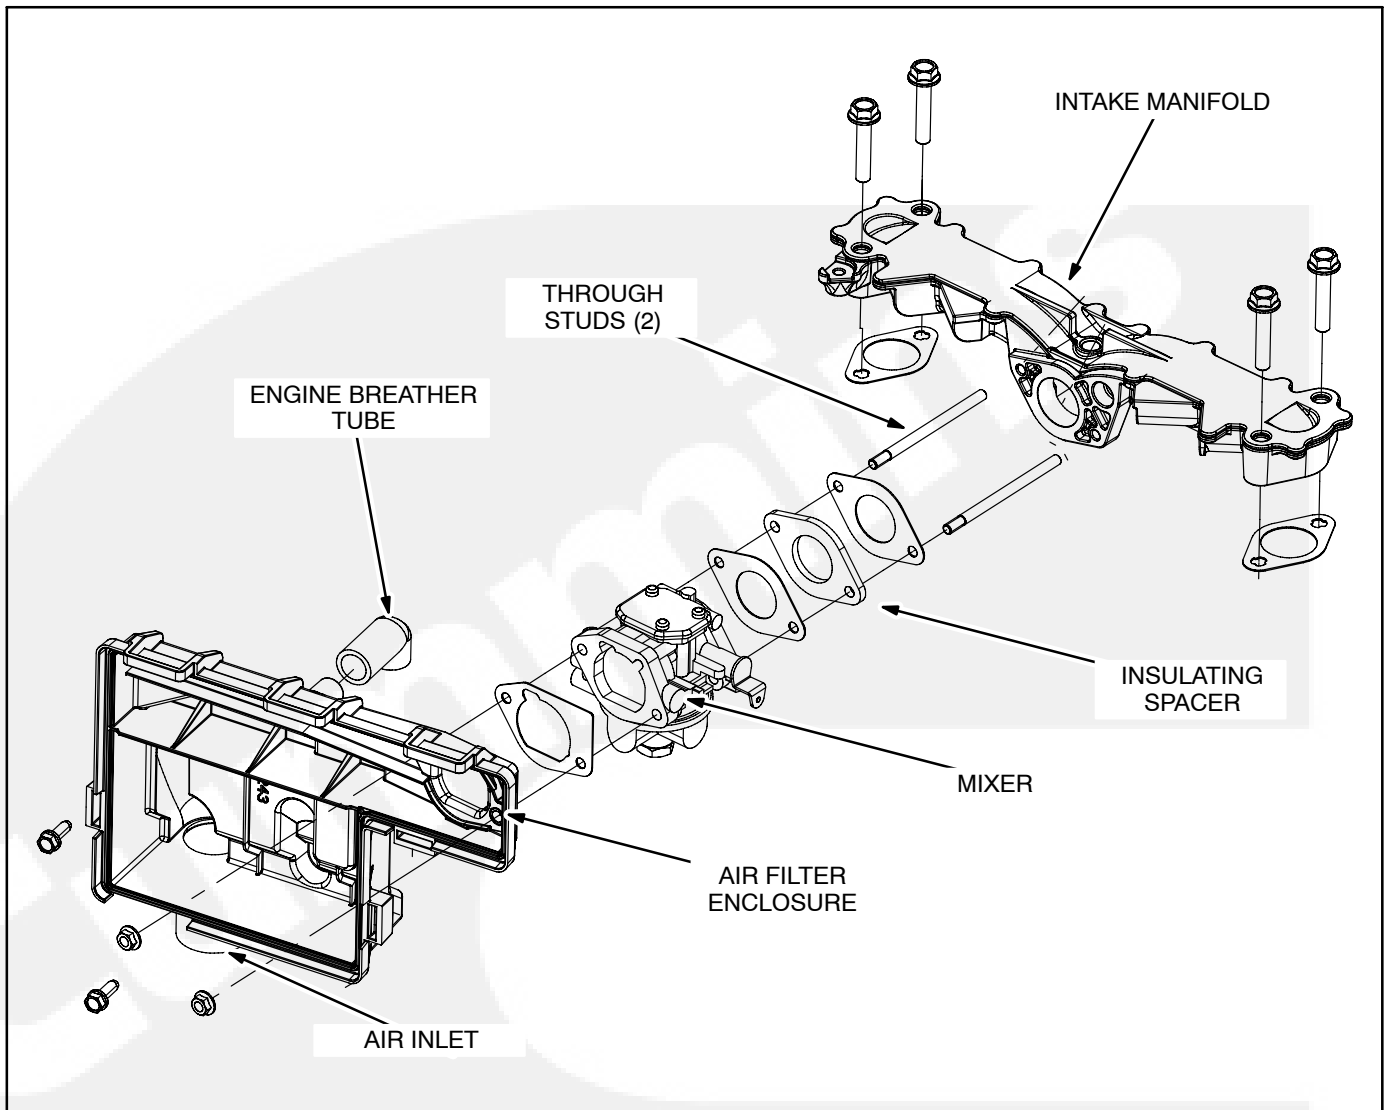
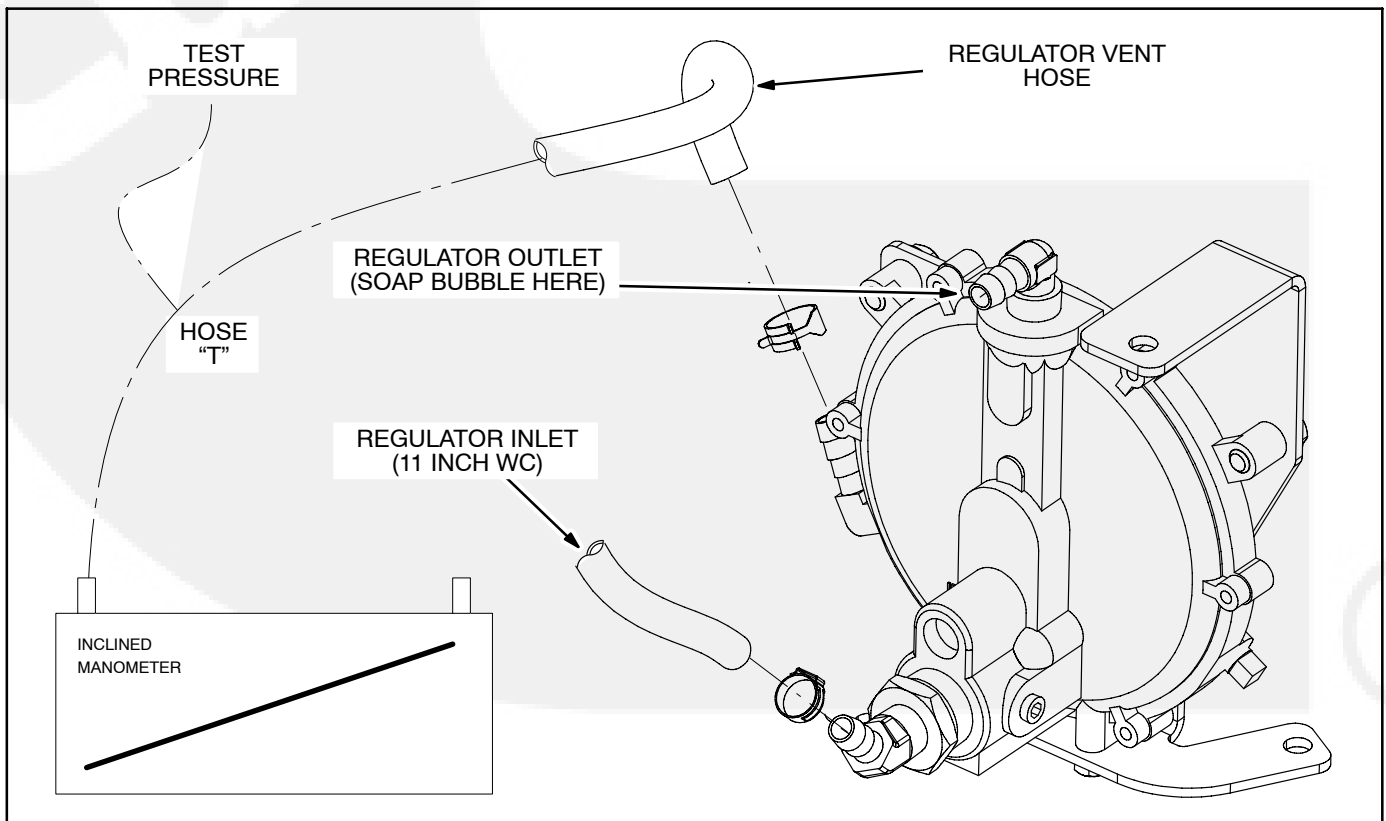
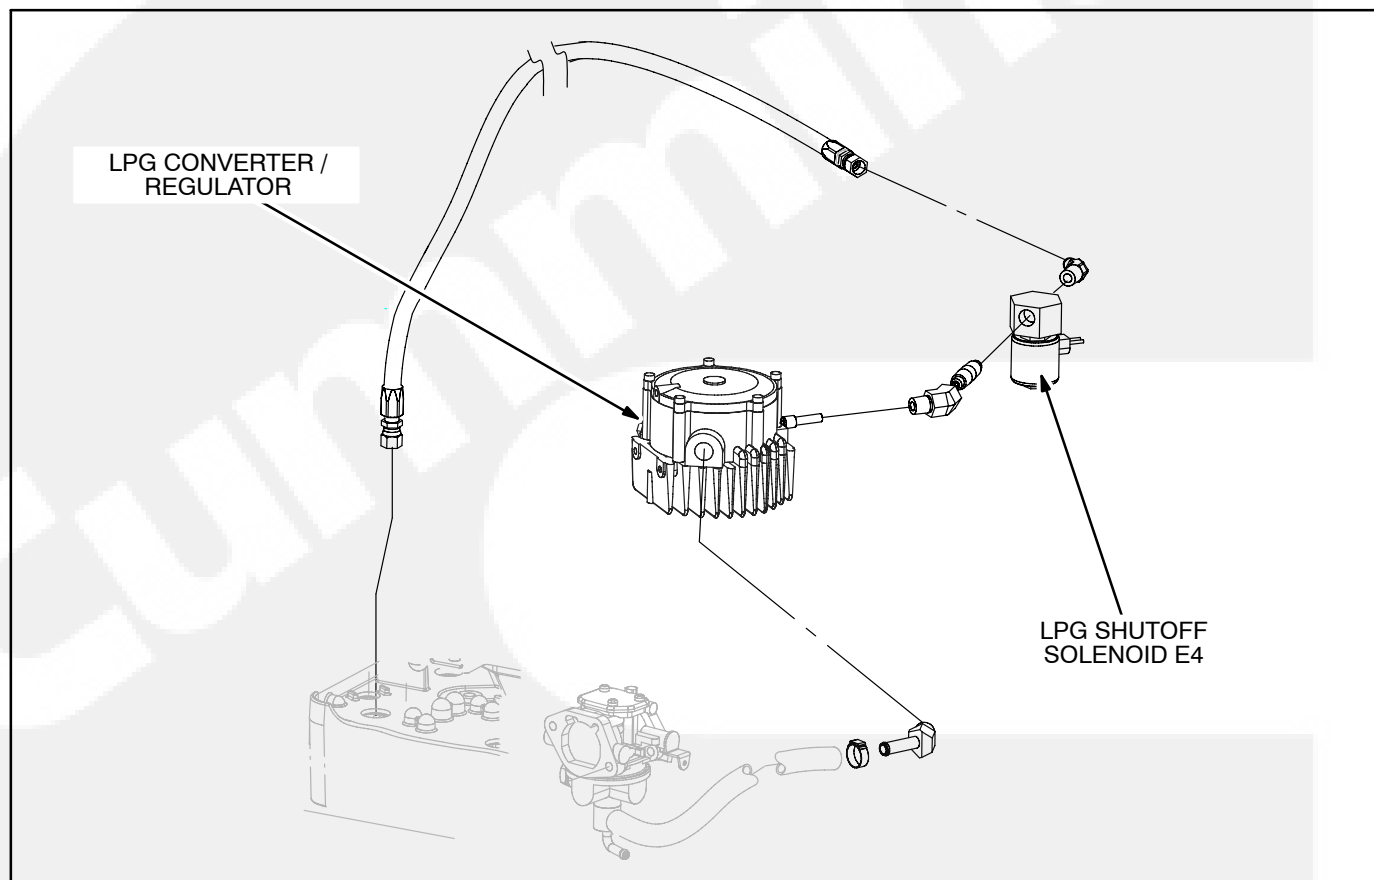

FIGURE 8-12. LPG MIXER AND INTAKE ASSEMBLY
FIGURE 8-13. LOW-PRESSURE LPG LOCK-OFF PRESSURE TEST
FIGURE 8-15. HIGH-PRESSURE LPG COMPONENTS
LPG and combustion air are mixed in the proper ratio in the mixer (Figure 8-12) for good starting and good performance over the entire load range. The demand regulator on Low-Pressure LPG Models (Figure 8-13) or the converter on High-Pressure LPG Models (Figure 8-15) meters LPG to the mixer in proportion to venturi vacuum. The mechanical governor (Page 8-21) operates the throttle in the mixer to maintain constant engine speed (within a range of 5 percent) as load varies.
The mixer can be removed without removing the genset enclosure. Referring to Figure 8-12, remove the mixer as follows:
Low-Pressure LPG Models have a demand regulator that meters fuel to the carburetor (Figure 8-13). It is usually not the cause of fuel system problems. All other possible fuel system problems should first be checked out. Then conduct a lock-off pressure test as follows before replacing a demand regulator.
1. Connect the regulator inlet (Figure 8-13) to a source of air pressure regulated to 11 inches WC (28 cm).
High-Pressure LPG Models have a converter (liquid to vapor) that also meters fuel to the carburetor (Figure 8-15). It is usually not the cause of fuel system problems. All other possible fuel system problems should first be checked out before replacing it.
genset is not running, or any other reason to suspect that the valve (Figure 8-15) is leaking, remove the solenoid and connect the inlet of the valve to a source of compressed air (200 psi maximum). Replace the solenoid if it leaks. Use a soap bubble to check for leakage.